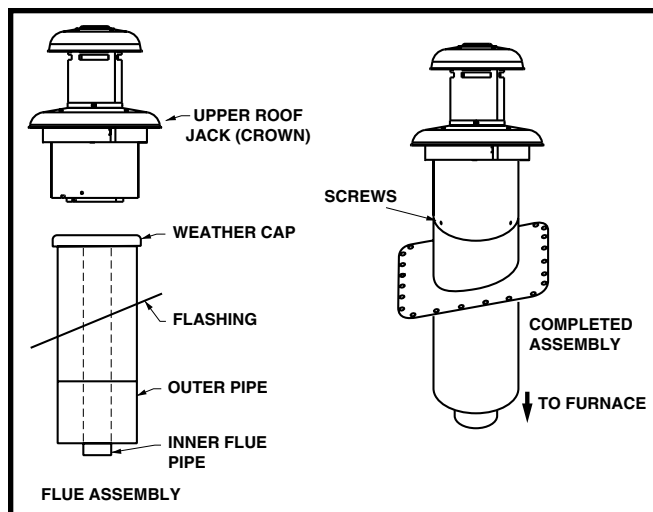

Figure 23. Roof Jack Crown
5. Transit-mode weather cap to be removed and upper Roof Jack crown installed. See Figure 23. Do Not Discard screws.